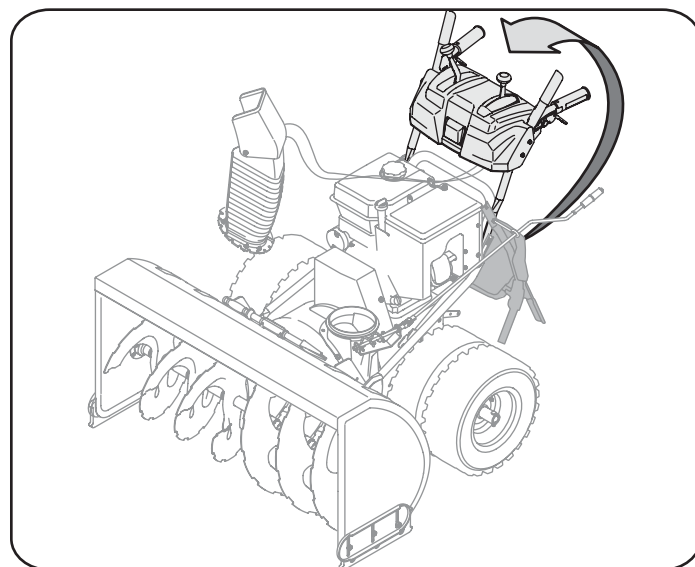

Figure 1
- c. Remove the upper wing knob and carriage bolt from each side of the lower handle. Pull up on upper handle as shown in Fig. 1. Align upper handle with the lower handle. Again, make certain the springs at the lower end of the auger and drive cables are securely hooked into their respective actuator brackets. Also, remove any rubber bands securing the cables to the wing nuts.